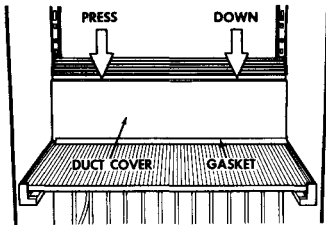

Figure 35 - Duct Cover Removal
3. Lift up at the rear of the glass veg pan cover and push it to the rear to disengage it from the front supports. Remove the glass cover and gasket. See Figure 35.